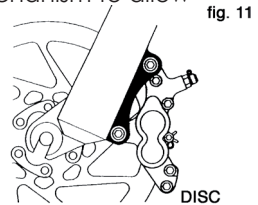
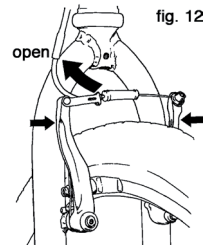

fig. 11
fig. 12
(1) If your bike has rim brakes, disengage the brake's quick-release mechanism to increase the clearance between the tire and the brake pads (See Section 4.C fig. 11 through 15).
(1) Shift the rear derailleur to high gear (the smallest, outermost rear sprocket).
(2) If your bike has rim brakes, disengage the brake's quick-release mechanism to increase the clearance between the wheel rim and the brake pads (see Section 4.C, figs. 11 through 15).
(3) Pull the derailleur body back with your right hand.
(1) If your bike has rim brakes, disengage the brake's quick-release mechanism to increase the clearance between the tire and the brake pads (see Section 4.C, figs. 11 through 15).
(2) Using a correct size wrench, loosen the two axle nuts.
(3) If your front fork has a clip-on type secondary retention device, disengage it and go to the next step. If your front fork has an integral secondary retention device, loosen the axle nuts enough to allow wheel removal; then go to the next step.
(4) Raise the front wheel a few inches off the ground and tap the top of the wheel with the palm of your hand to knock the wheel out of the fork ends.
(1) If your bike has rim brakes, disengage the brake's quick-release mechanism to open the clearance between the tire and the brake pads (see Section 4.C, figs. 11 through 15).
(2) Shift the rear derailleur to high gear (the smallest rear sprocket) and pull the derailleur body back with your right hand.
(3) Using the correct size wrench, loosen the two axle nuts.
(4) Lift the rear wheel off the ground a few inches and, with the derailleur still pulled back, push the wheel forward and down until it comes out of the rear dropouts.
3. Some bicycle brakes, such as disc brakes (fig. 11) and linear-pull brakes (fig.12), are extremely powerful. Take extra care in becoming familiar with these brakes and exercise particular care when using them.
Most brakes have some form of quick-release mechanism to allow the brake pads to clear the tire when a wheel is removed or reinstalled. When the brake quick release is in the open position, the brakes are inoperative. Ask your dealer to make sure that you understand the way the brake quick release works on your bike (see figs. 11, 12, 13, 14 & 15) and check each time to make sure both brakes work correctly before you get on the bike.